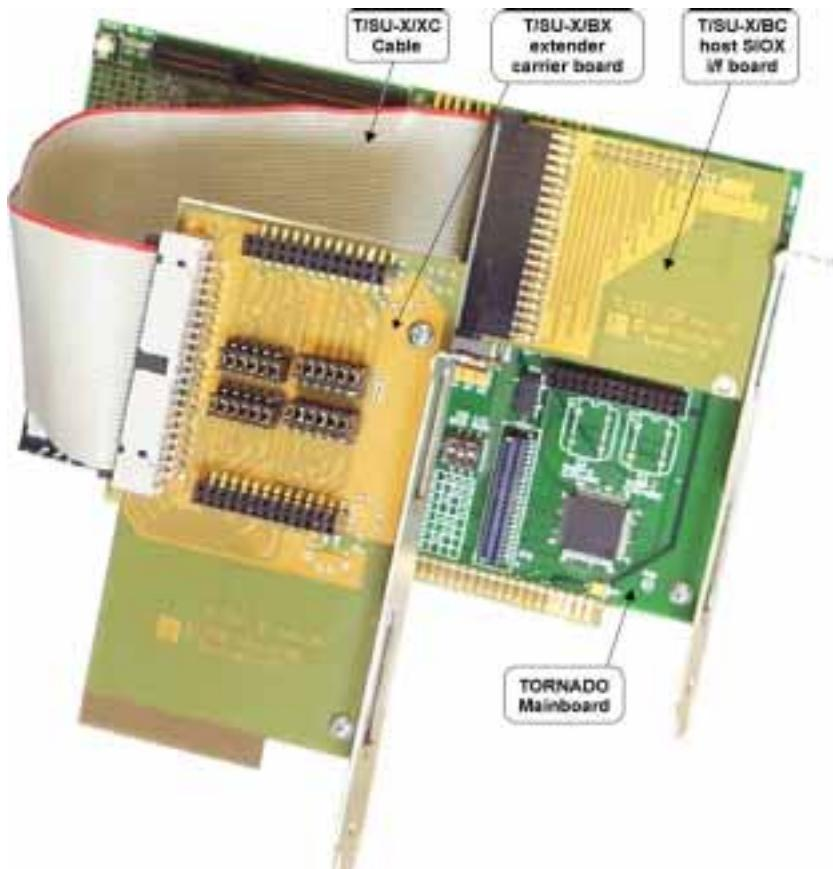
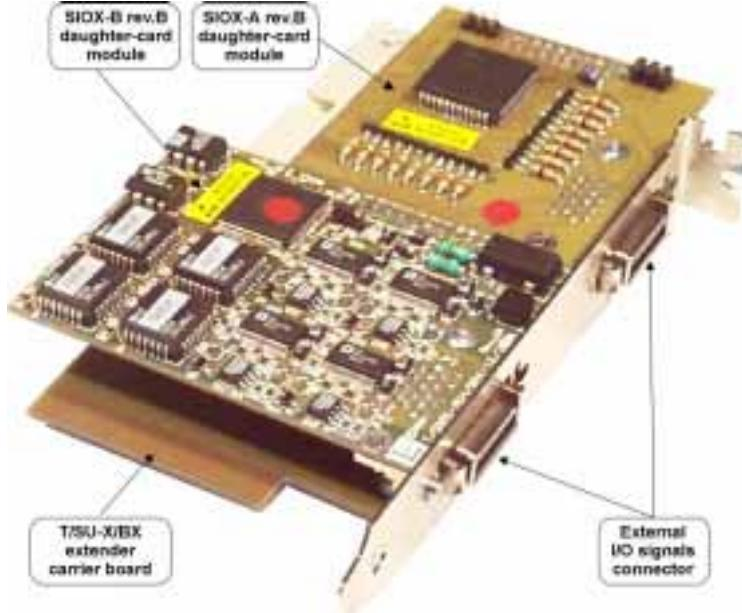

Fig. 1-2. *T/SU-X* SIOX extender kit connected to *TORNADO-6x* mainboard.
Fig. 1-3. T/SU-X/BX SIOX extender carrier board with two SIOX rev.B DCM installed.
*T/SU-X/BC* option of *T/SU-X* SIOX extender kit plugs directly to the SIOX rev.B site onto *TORNADO* mainboard and connects to remote *T/SU-X/BX* SIOX extender carrier board by means of *T/SU-X/XC* connection cable (fig.1-2). *T/SU-X/BX* SIOX extender carrier board can carry up to two SIOX/SIOX-Bus rev.B DCMs (fig.1-3).